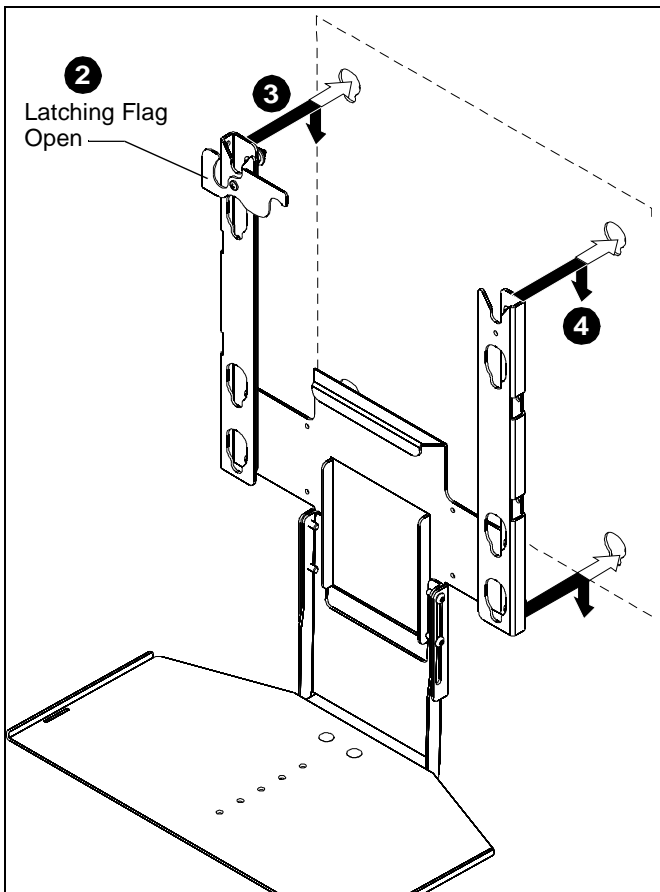
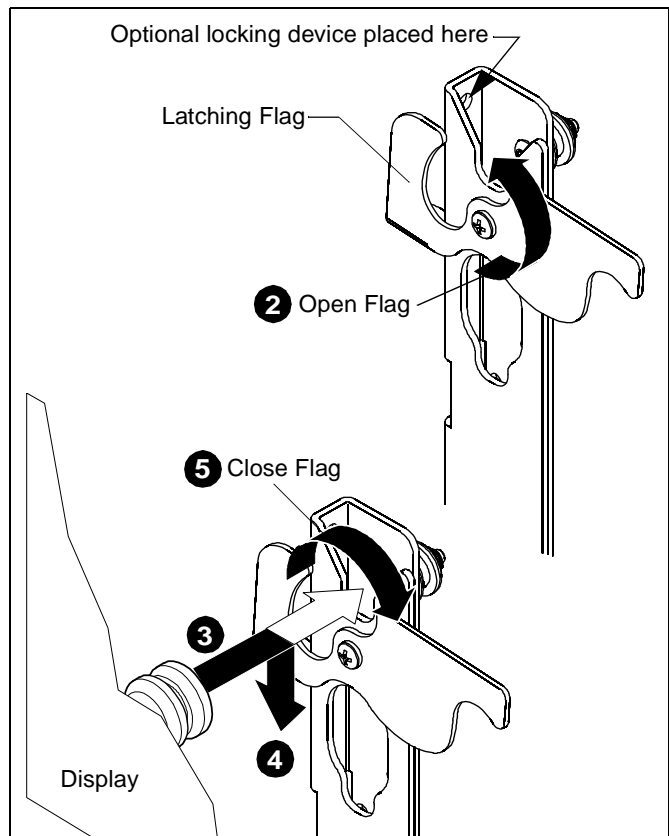

Figure 5
Figure 6
1. Install PACCS1 to mount following the installation instructions provided with the mount. (See Figure 5)
2. Verify latching flag is in the OPEN position. (See Figure 5) and (See Figure 6)
3. Align four mounting buttons on display with four teardrop mounting holes in accessory. (See Figure 5) and (See Figure 6)
4. Slide mounting buttons into teardrop mounting holes and lower display until recessed area of mounting buttons is seated in lower area of teardrop mounting holes. (See Figure 5) and (See Figure 6)
5. Move latching flag to CLOSED position to secure display on PACCS1. (See Figure 6)